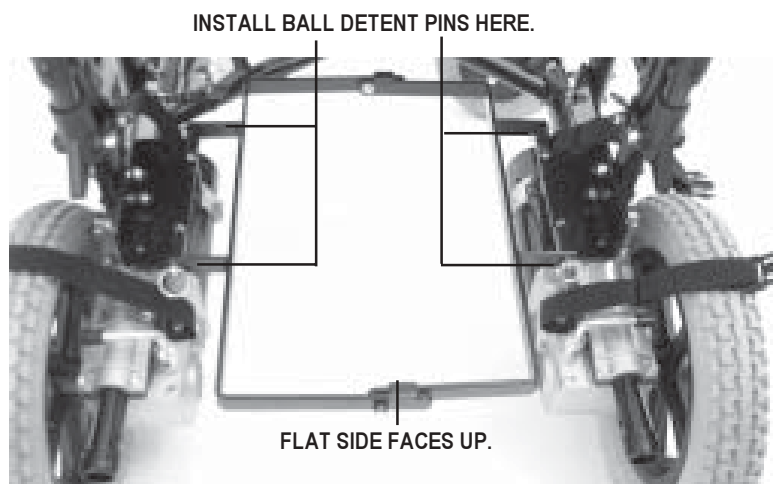

Figure 5. Battery Tray Installation
3. Install the battery tray. See figure 5. Make sure the tabs are facing upwards so that the middle of the tray can only fold up.